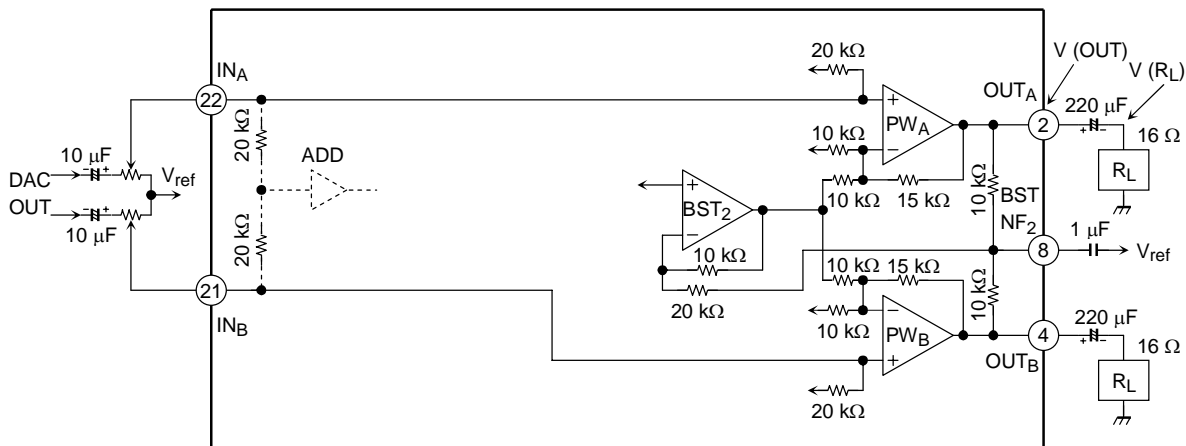
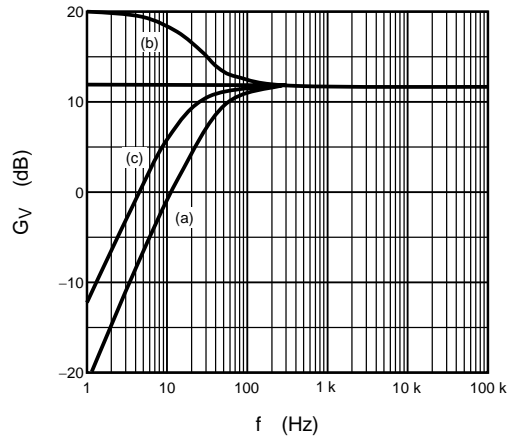

Figure 3 Low-Pass Compensation System Diagram
Figure 4 Power Amplifier Frequency Characteristics
Fig.3 shows the low-pass system diagram, and Fig.4 shows the frequency characteristics at each point. In Fig.4, (a) represents the status lost by the low-pass as a result of the high-pass filter comprising the headphone load ($R_L = 16\ \Omega$) and the output coupling condenser ($220\ \mu\text{F}$) in the C-coupling system.
The low-pass component alone is extracted from the composite signal of PWA/PWB output, and that frequency signal is fed back to PWA/PWB once more via the inversion amplifier, thereby making it possible to increase the gain only of the low-pass component. The frequency characteristics of the power amplifier output V (OUT) in this state are shown in Fig.4 (b). In practice they are the frequency characteristics (c) viewed from load terminal V (RL), and the low-pass is compensated relative to the state in (a).